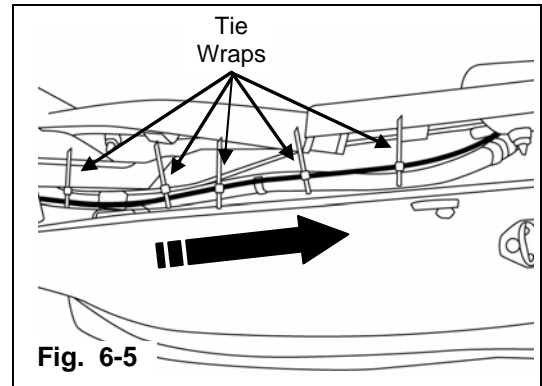

Fig. 6-5
5. Route video cable up driver-rear wheel well into rear cargo area, securing to OE harness with five (5) tie wraps. (Fig. 6-5)